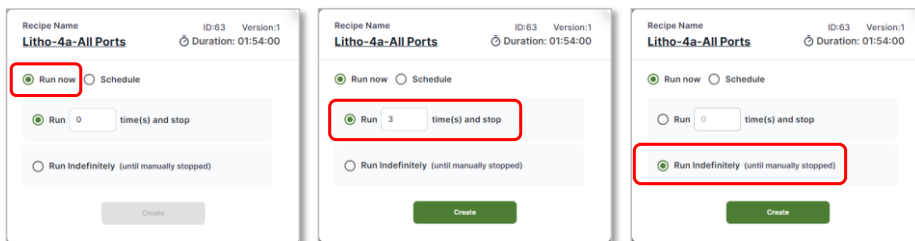

Figure 32: Scheduling New Recipe – Run Now
1. To add to the schedule now, the radio button **Run now** (the default option) is selected as shown in Figure 32.